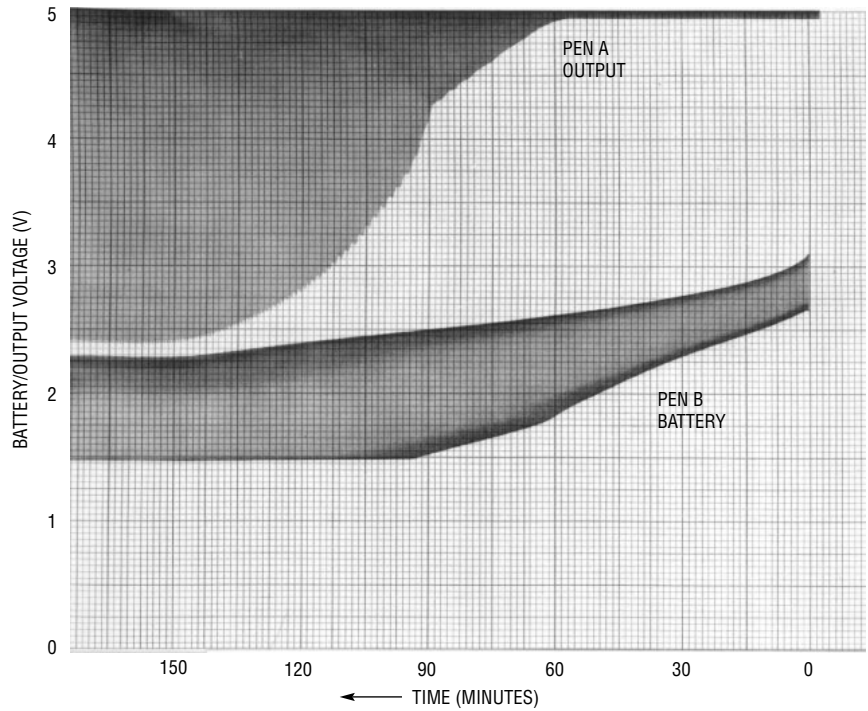

**Figure 5. Load profile for battery-life curves in Figures 6 and 7.**
chart recordings. Many systems require high power for a short time, for example, to spin up a hard disk or transmit a packet of data. Figures 6, 7, and 8 present battery-life data with a load profile of 50mA for 9 seconds and 550mA for 1 second, as detailed in Figure 5. At the chart speeds used, individual ten-second events are not discernable and the battery voltage appears as a very thick line. Figure 6 shows operating life using a two-cell alkaline (Eveready E91) battery. Battery voltage (pen B) drops 400mV as the output load changes from 50mA to 550mA. Battery impedance (330mΩ when fresh) can be derived from this data. After 63 minutes, the battery voltage drops substantially below 2V when the output load is 550mA, causing the output voltage (pen A) to drop. The output returns to 5V when the load drops to 50mA. The LT1302's undervoltage lockout prevents the battery voltage from falling below 1.5V until the battery is completely discharged (not shown on the chart).
**Figure 6. Two-cell alkaline battery to 5V converter with load profile of Figure 5 gives 63 minutes operating life. Battery life decreases when 550mA load is applied; impedance is 330 milliohms when fresh. Output voltage drops at 550mA load after 63 minutes, but converter can still deliver 50mA.**